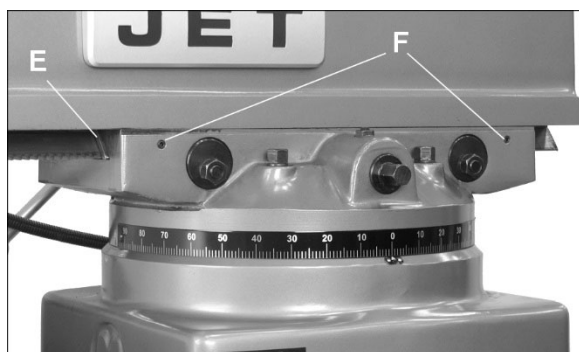

Figure 11-4: Ram gib location
Adjust ram gib (E, Figure 11-4) by turning the two set screws (F).